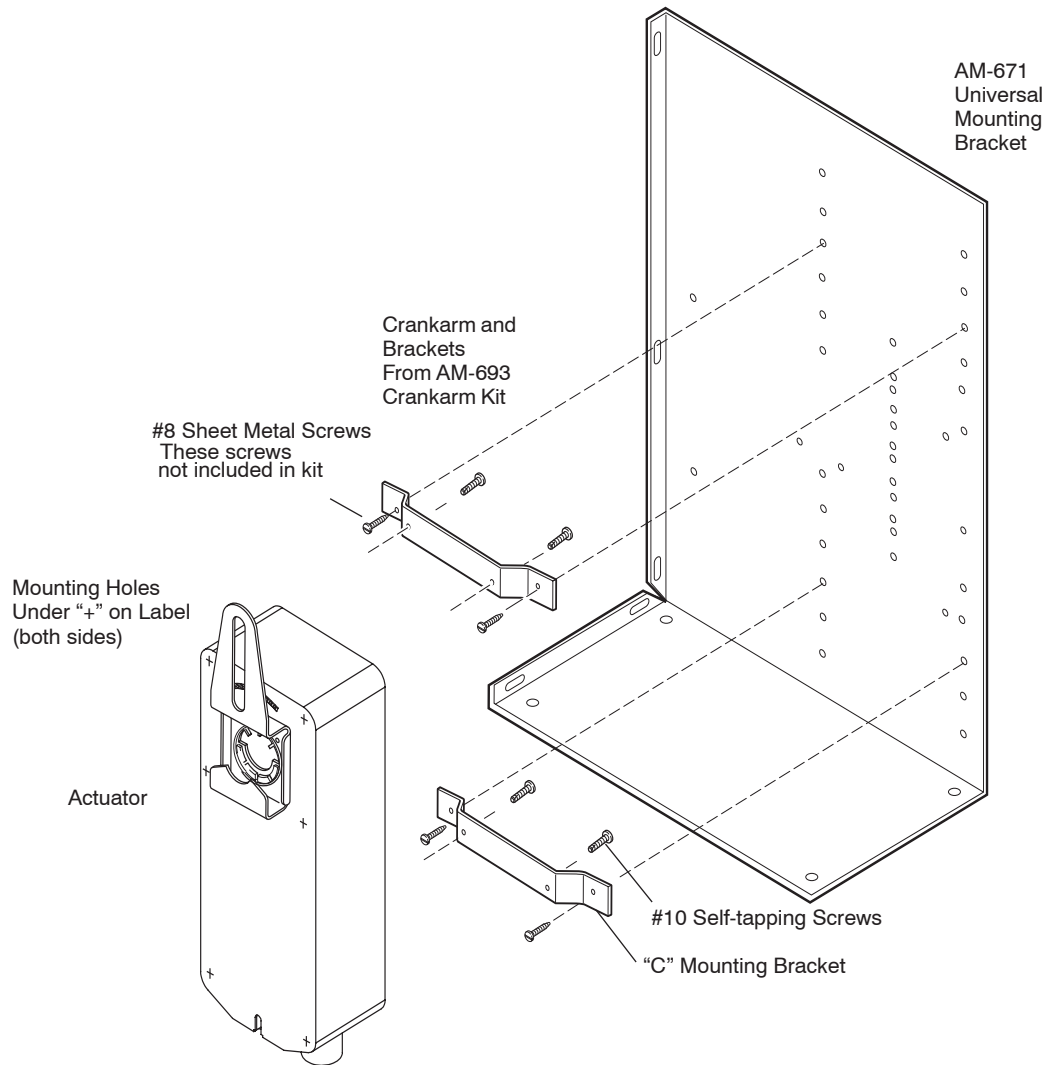
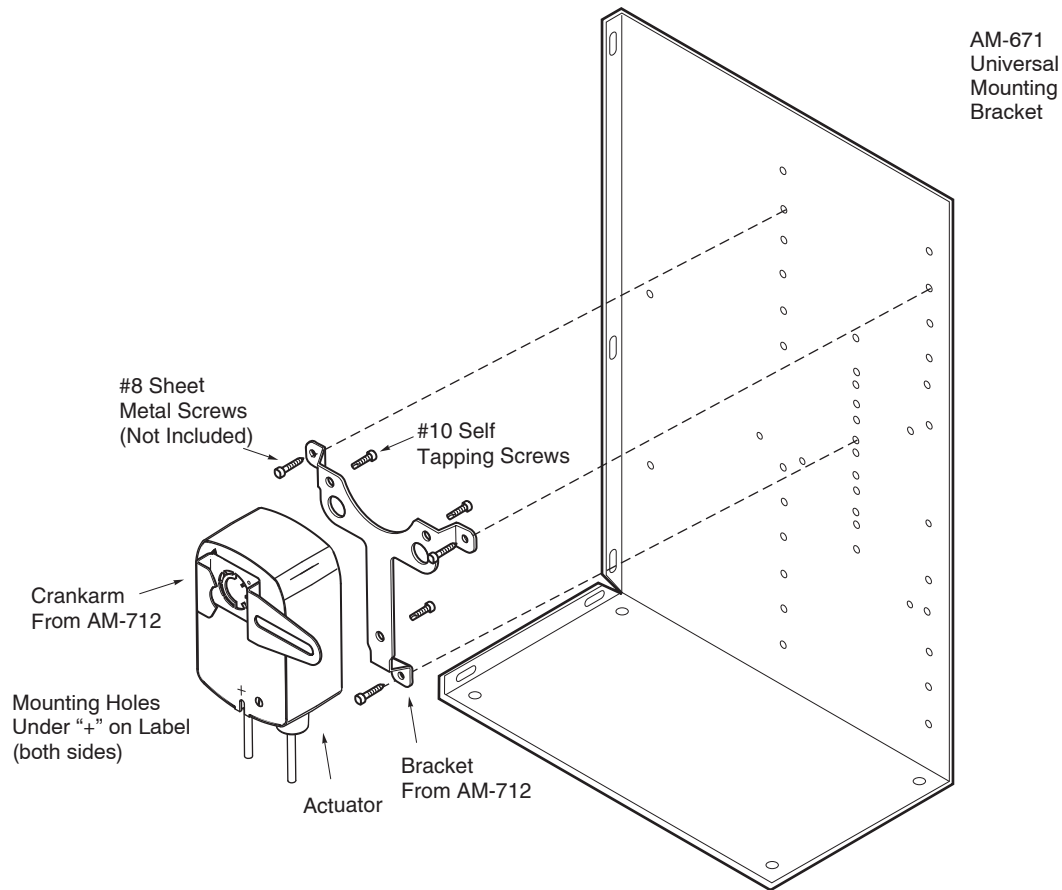

Figure-1 Installation of MX40-707X and MX40-715X Actuator to Universal Mounting Bracket AM-671.
Figure-2 Installation of MX40-704X actuator to Universal Mounting Bracket AM-671.
2. Locate the pre-drilled mounting holes on the actuator label that are covered by a white "+" sign (See Figure-1 and Figure-2).
4. Use the #10 self-tapping screws to secure the brackets to the actuator, see Figure-1 and Figure-2.